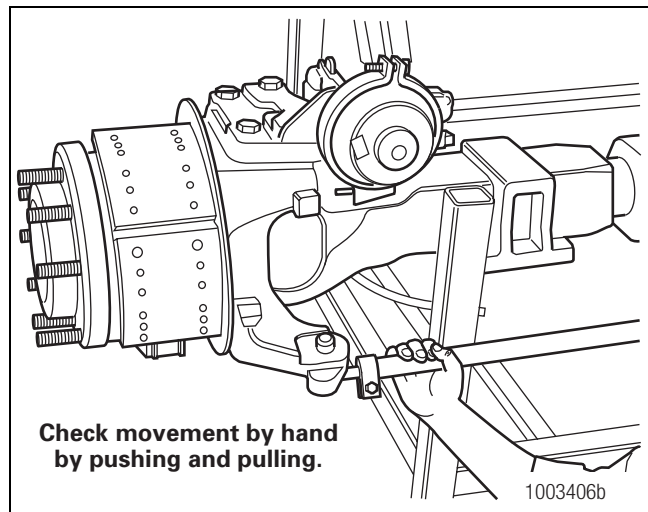

Figure 5.13
11. Use a push-pull movement to apply approximately 100 pounds (45 kg) of hand pressure several times to the tie rod assembly. Check for movement or looseness at both tie rod ends. Figure 5.13.